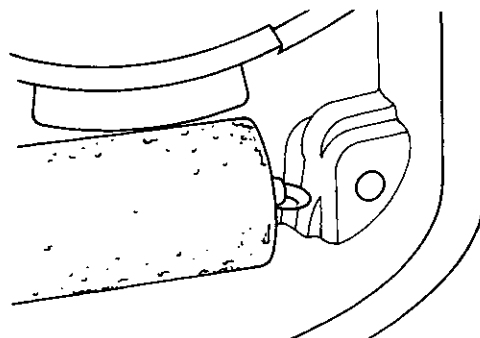

Figure 3.3.7
2. Inspect the condenser for signs of corrosion. This condition is cause for component rejection. (See Figure 3.3.7).